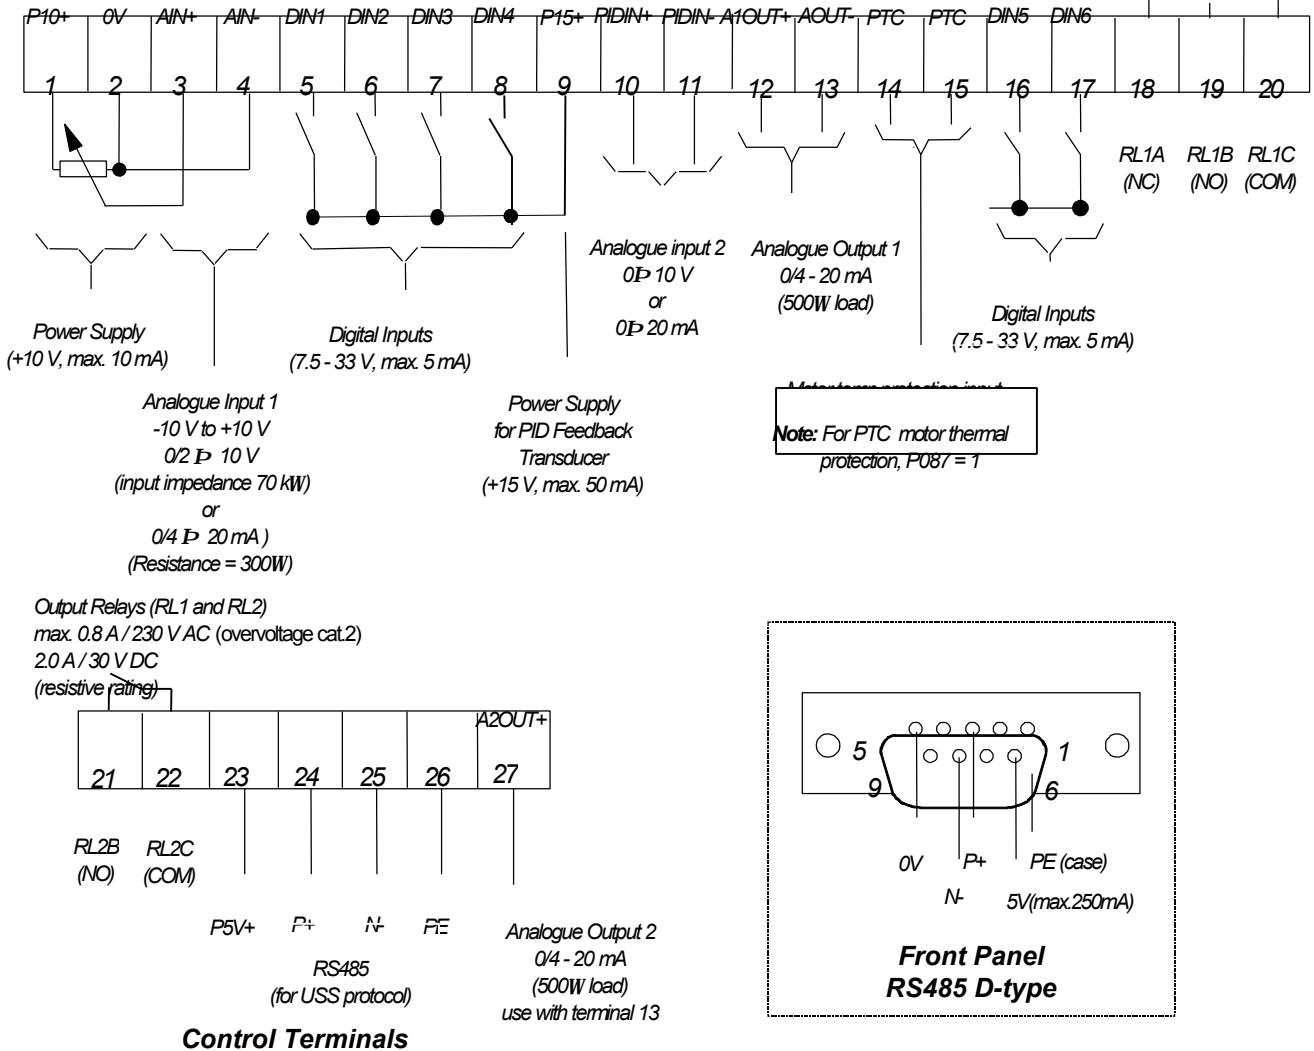
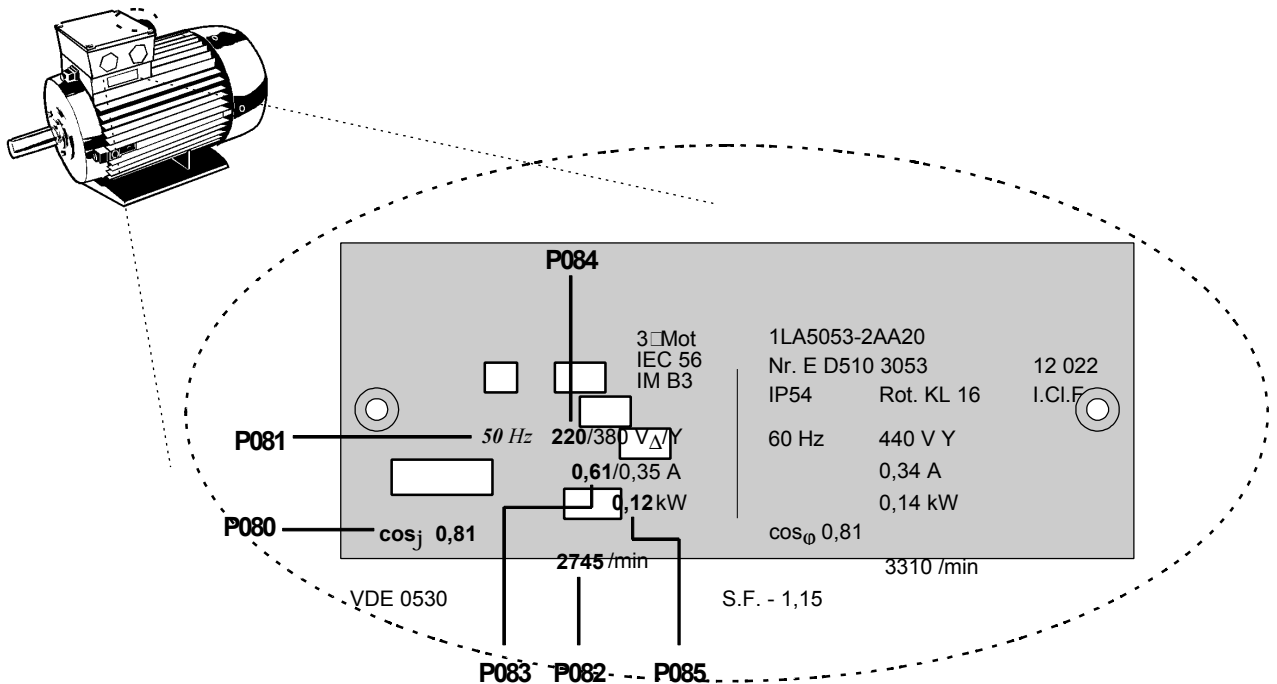

Figure 3.2.2: Control Connections - MIDIMASTER Vector
Figure 4.2.1: Typical Motor Rating Plate Example
- (1) The inverter does not have a main power switch and is therefore live when the mains supply is connected. It waits with the output disabled until the RUN button is pressed or for the presence of a digital ON signal via terminal 5 (rotate right- default) or terminal 6 (rotate left- default) - see *parameters P051 to P055 and P356*.
- (2) If output frequency (P001 = 0) is selected as the display, the corresponding setpoint is flashed on the display approximately every 1.5 seconds while the inverter is stopped.
- (3) The inverter is programmed at the factory for standard applications on Siemens standard motors. When using other motors it is necessary to enter the specifications from the motor's rating plate into parameters P080 to P085 (see *Figure 4.2.1*). **Note: Access to these parameters is not possible unless P009 = 002 or 003.**
- (1) Connect control terminal 9 to terminal 5 via a simple on/off switch. This sets up the inverter for clockwise rotation of the motor shaft (default).
- (2) Secure all covers to the unit and then apply mains power to the inverter. Set parameter P009 to 002 or 003 to enable all parameters to be adjusted.
- (3) Check that parameter P006 is set to 000 to specify digital setpoint.
- (4) Set parameter P007 to 000 to specify digital input (i.e. DIN1, terminal 5 in this case) and disable the front panel controls.
- (5) Set parameter P005 to the desired frequency setpoint.
- (6) Set parameters P080 to P085 in accordance with the rating plate on the motor (see *Figure 4.2.1*).
- (7) Set the external on/off switch to ON. The inverter will now drive the motor at the frequency set by P005.
- (1) Connect control terminal 9 to terminal 5 via a simple on/off switch. This sets up the motor for clockwise rotation (default).
- (2) Connect a 4.7 k Ω potentiometer to the control terminals as shown in Figures 2.2.4 and 2.2.6 (MMV) (Figures 3.2.2 and 3.2.4 (MDV)) or connect pin 2 (0V) to pin 4 and a 0 - 10 V signal between pin 2 (0V) and pin 3 (AIN+).
- (3) Set the Analogue Input 1 Configuration DIP selector switches 1, 2 and 3 for voltage (V) input. (see *Figure 3.2.2-3.2.4, Section 4.1.2*)
- (4) Secure all covers to the unit and then apply mains power to the inverter. Set parameter P009 to 002 or 003 to enable all parameters to be adjusted.
- (5) Set parameter P006 to 001 to specify analogue setpoint.
- (6) Set parameter P007 to 000 to specify digital input and disable the front panel controls.
- (7) Set parameters P021 and P022 to specify the minimum and maximum output frequency settings.
- (8) Set parameters P080 to P085 in accordance with the rating plate on the motor (see *Figure 4.2.1*).
- (9) Set the external on/off switch to ON. Turn the potentiometer (or adjust the analogue input control voltage) until the desired frequency is displayed on the inverter.